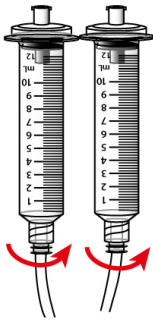

Figure 20 – Screw the adapters tight into the reservoirs.
- (a) Verify the connection between the reservoirs and tubing by screwing the adapters tightly into the reservoirs (Figure 20).